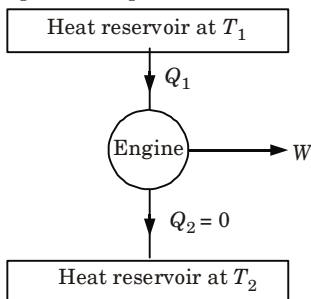

Fig. 10.
3. Net work done, from Fig. 10.